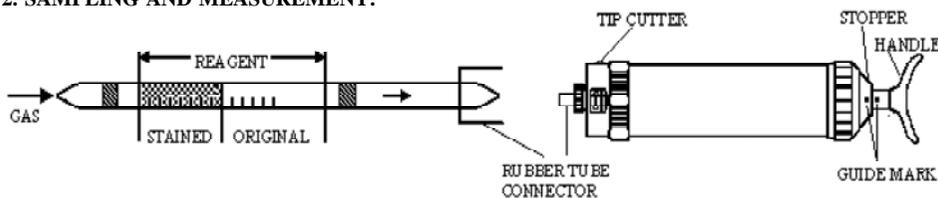

Fig.1
- ① Break both ends of detector tube.
- ② Insert the detector tube into aspirating pump securely as shown in Fig.1. (Arrow mark shall point to the pump.)
- ③ Align the guide marks on the shaft and stopper of the aspirating pump.
- ④ Pull the pump handle at full stroke until it locks and wait for 5 minutes or until the completion of sampling is confirmed with the flow indicator of the pump (See descriptions about the flow indicator in the instructions of the pump).
- ⑤ On completion of sampling, read the scale at the maximum point of the stained layer.
- ⑥ In case of 2 pump strokes, push the handle once more without removing the detector tube from the pump inlet, turn it right or left 1/4 and repeat step ④ once.
- ⑦ In this case, actual concentration is half of the reading value.